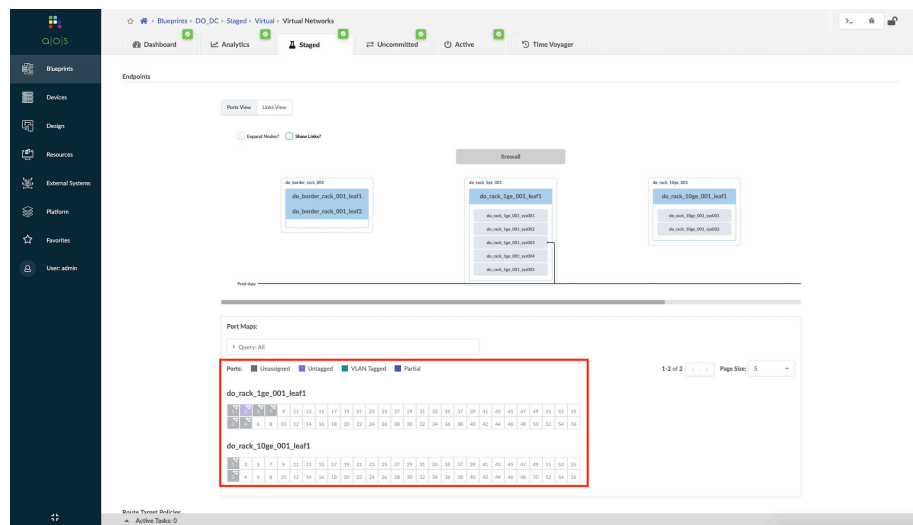

Figure 7.33 Viewing VNI Port Assignment Pre-Change
Step 3: Select the Virtual Network to review current physical port mappings. Figure 7.33 shows the current physical port assignments.